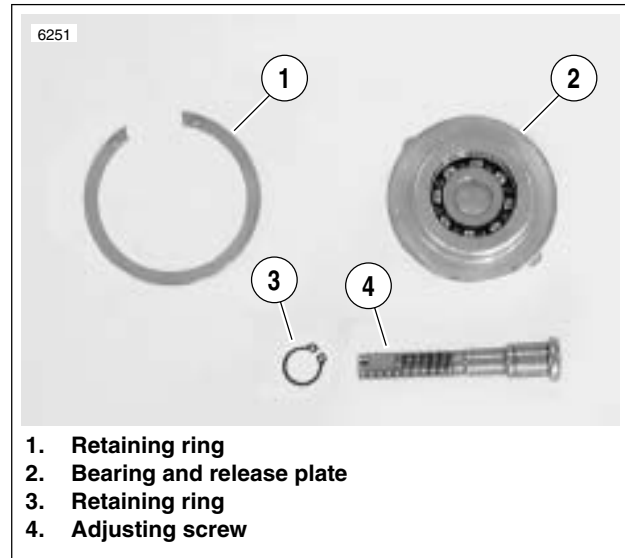

Figure 6-13. Adjusting Screw Assembly
5. See Figure 6-13. Remove adjusting screw assembly.